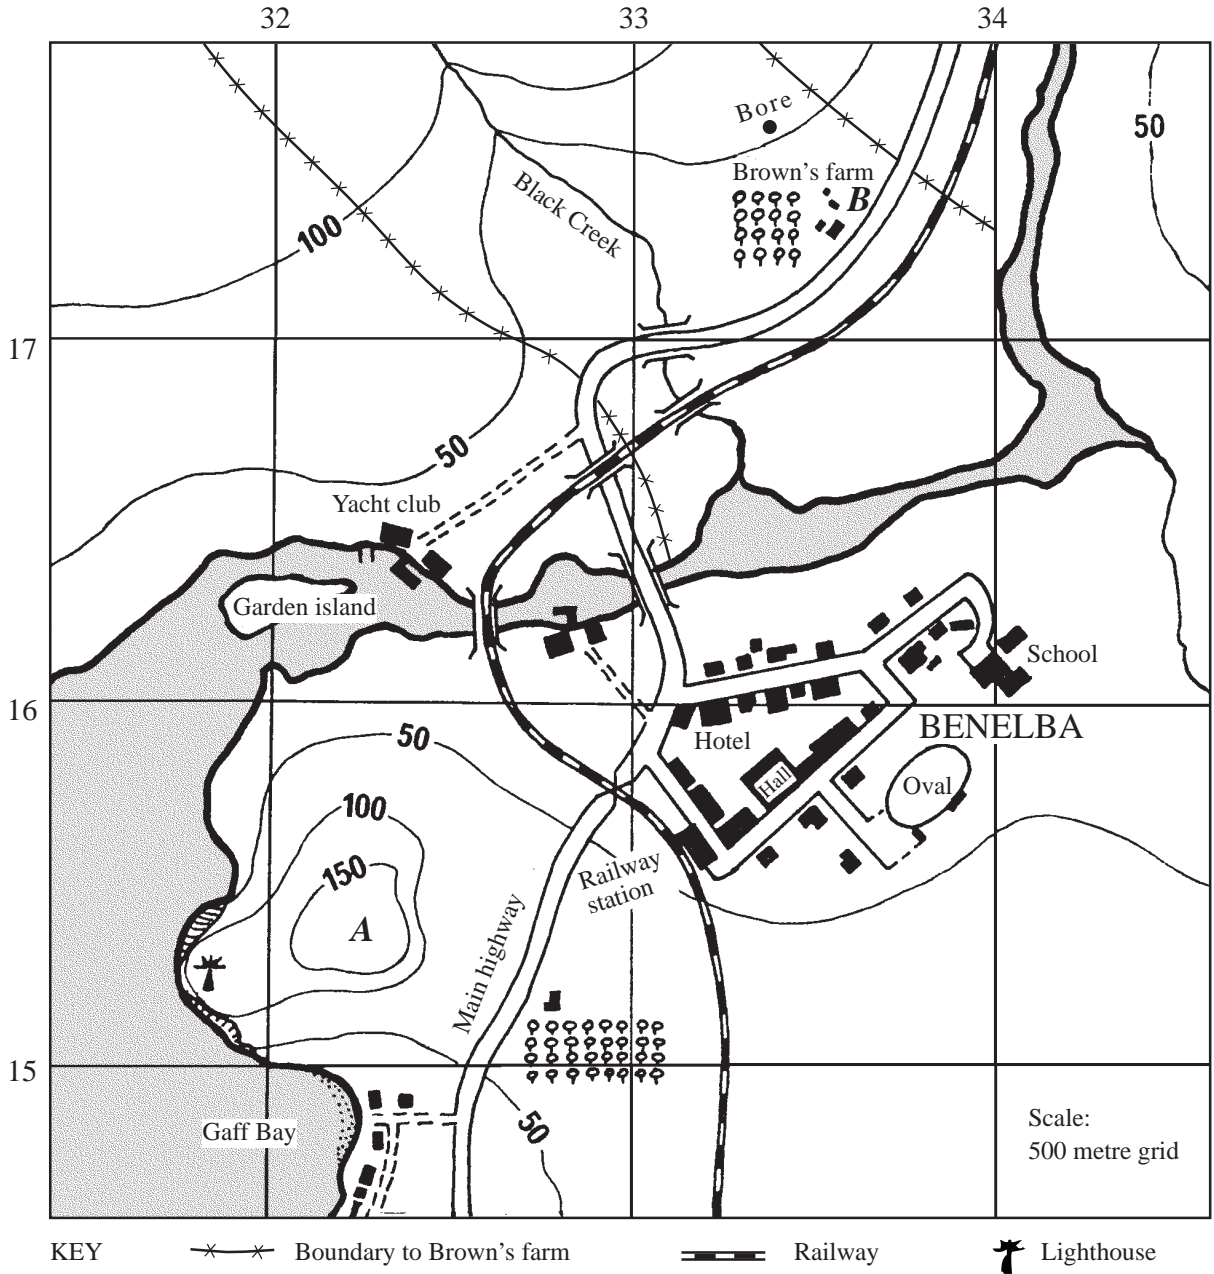

FIG. 3. TOPOGRAPHIC MAP OF BENELBA
- (a) Figure 3 shows a topographic map of a farming district. Use the map to answer the following questions.